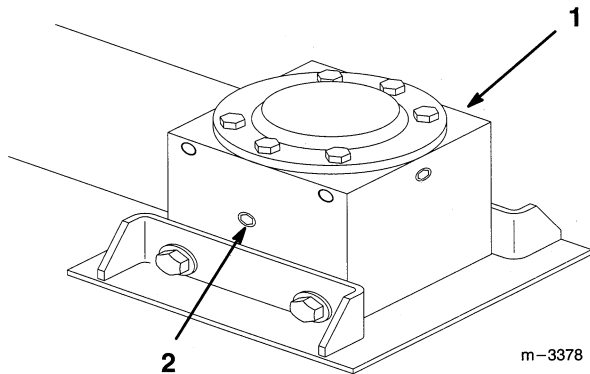

Figure 33
4. Remove plug on the side of the gearbox and check the level of lubrication in the gearbox. If level is low, add SAE EP-80\90 wt. gear oil until level is up to side plug in gearbox. (Fig. 33).